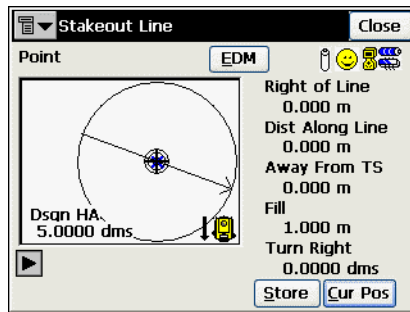

Figure 7-17. Stakeout Line
- For TS: sight the prism. In the *Stakeout Line* screen tap the **Cur Pos** button to check the position (Figure 7-17). Use the **EDM** button to select distance measurement mode: Coarse, Fine or Coarse Tracking. Once the position is close enough to the line and at the desired distance from the starting point, tap **Meas** to store it.